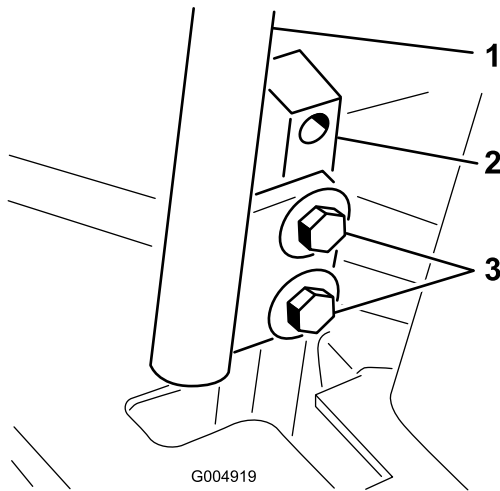

Figure 59
3. Loosen the bolts securing the control levers (Figure 59).